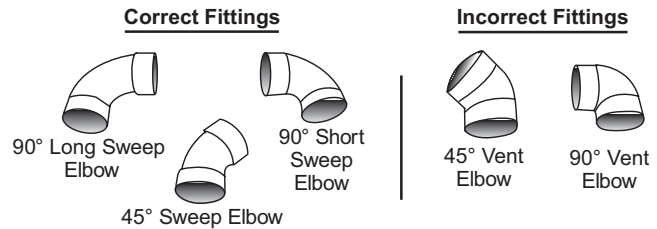

Figure 12. Correct and Incorrect Pipe Fittings
4. Maximum of 6 elbows may be used per pipe. Use only short or long sweep elbows. See Figure 12 for details.
IMPORTANT: Do not use vent elbows in this vent pipe installation. See Figure 12.